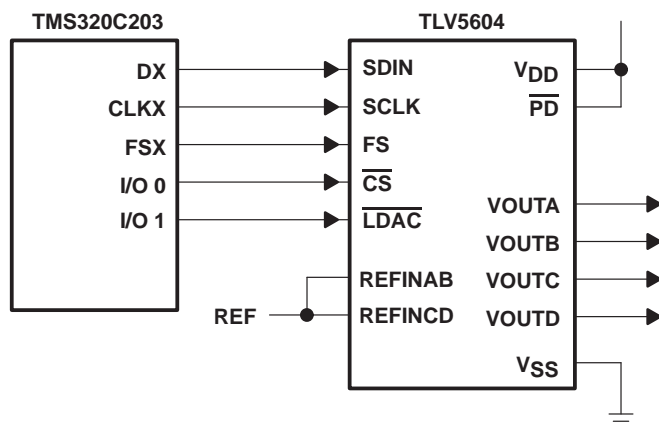

Figure 17. TLV5604 Interfaced with TMS320C203
Figure 17 shows an example of how to connect the TLV5604 to a TMS320C203 DSP. The serial port is configured in burst mode, with FSX generated by the TMS320C203 to provide the Frame Sync (FS) input to the TLV5604. Data is transmitted on the DX line, with the serial clock input on the CLKX line. The general-purpose input/output port bits IO0 and IO1 are used to generate the Chip Select ( $\overline{CS}$ ) and DAC Latch Update ( $\overline{LDAC}$ ) inputs to the TLV5604. The active low Power Down ( $\overline{PD}$ ) is pulled high all the time to ensure the DACs are enabled.